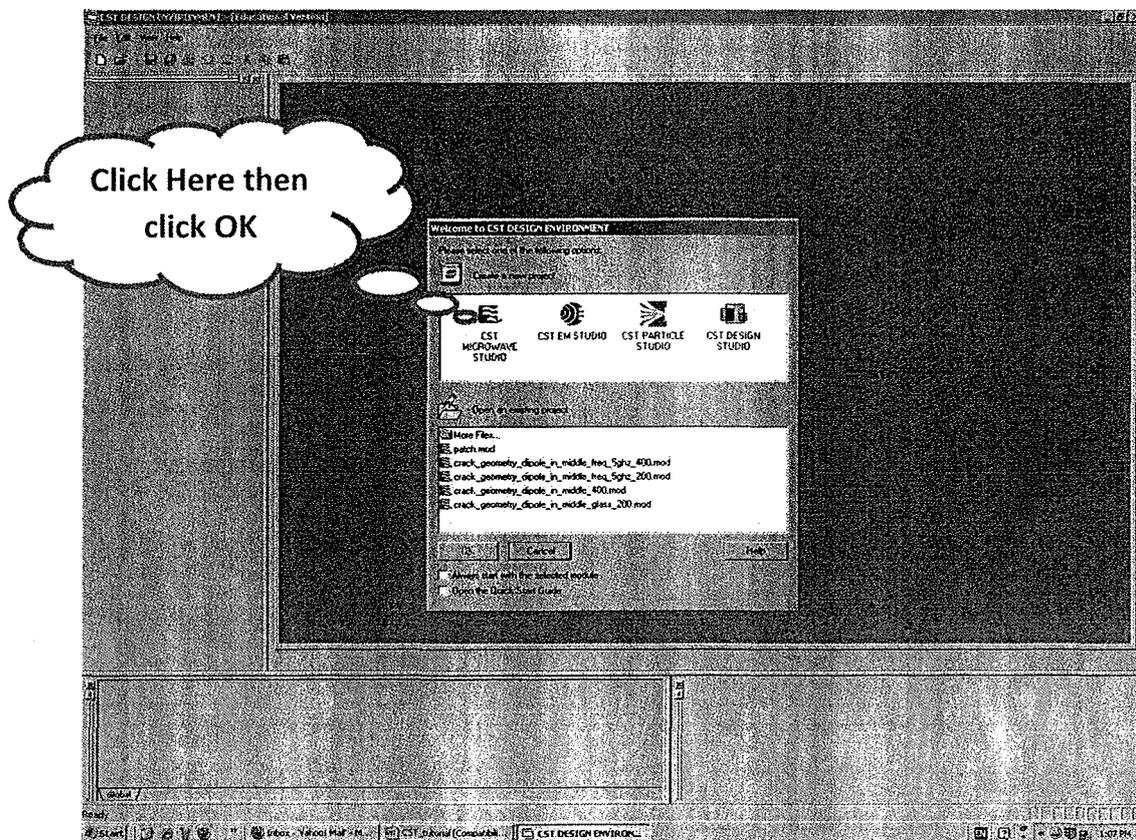

Fig. 1 CST main window
- b. The main window shown in Fig. 1 will be opened